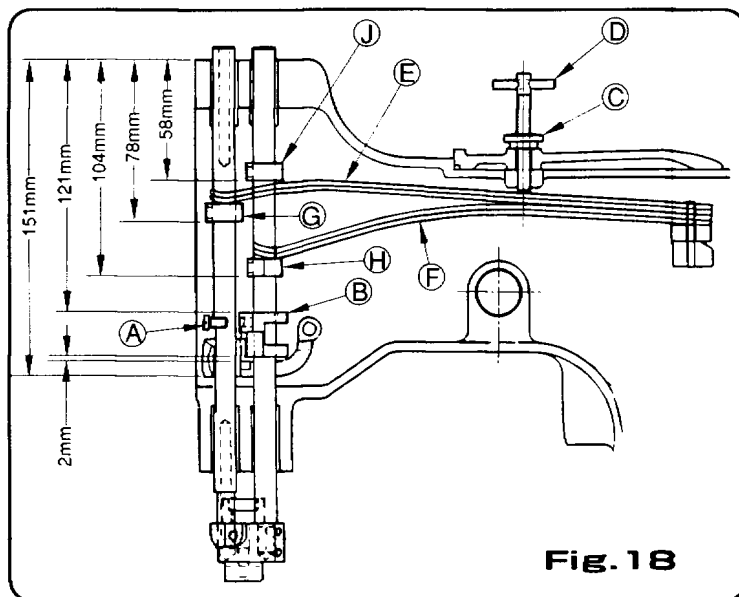
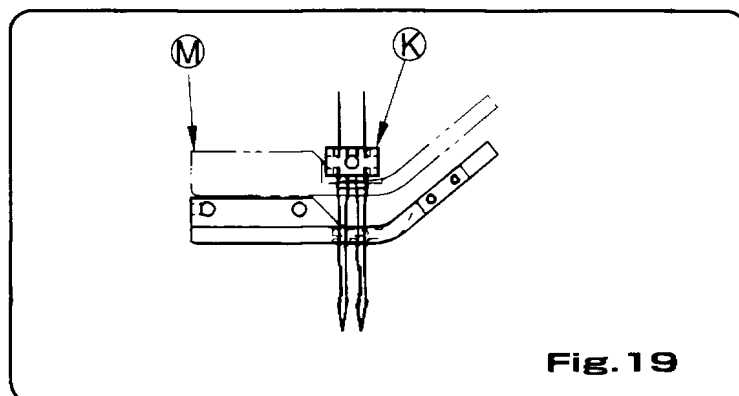

Fig. 18
Fig. 19
- 2) To adjust, loosen the screw (A) and upper the supporting yoke, When the upper feed dog is in the heist position and the presser foot is in the lowest position, or when the presser foot is highest and the upper feed dog is lowest. (Fig.18)
- 2) 上送り金と押エ金の調整は、上送り金が最も上で押エ金が一番下の時か、又は押エ金最も上がって上送り金最も下がった時に、Fig.18のネジ(A)を緩めブロックホルダー(B)を上げて下さい。
4-13. Setting Presser Foot Pressure (Fig.18 Fig.19)
- 6) Please refer each distance in the Fig.18 to adjust the collars and holder.
4-13. 押え圧調整 (Fig.18, Fig.19)
- 6) あらかじめFig.18の寸法にてカラー等をセットしておけば調整は容易です。